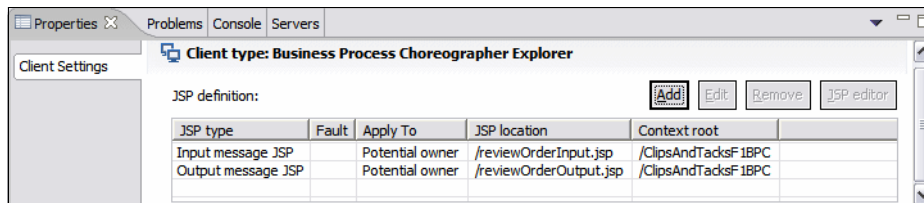

Figure 10-53 Human task JSPs for reviewing the order
- ▶ The list of JSPs for the Review Order activity is shown in Figure 10-53.